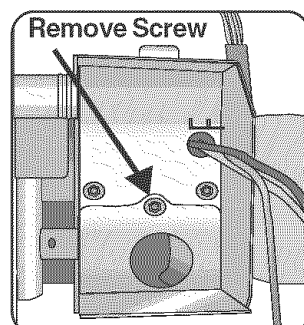

Figure 15
- 2 Remove the strain relief plate by removing the screw at the back of the junction box, as shown in **Figure 15** and sliding the strain relief plate out.